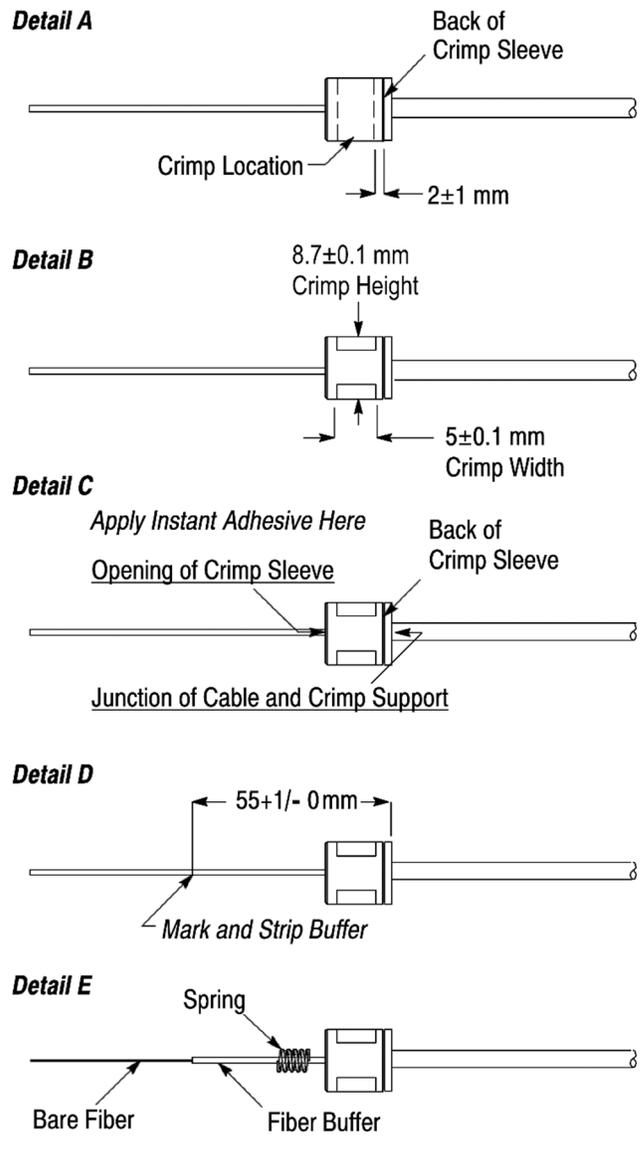

Figure 5
7. Place the crimp sleeve in the 8.6-mm hex nest of the hand tool and crimp the crimp sleeve onto the crimp support. Make sure to position the crimp sleeve in the hex nest so that the crimp will locate from the back of the crimp sleeve to within the dimension shown in Figure 5, Detail A.
8. Using the micrometer or caliper, measure the crimp sleeve across the flats of the hex crimp to make sure that it conforms to the crimp height and crimp width shown in Figure 5, Detail B.
9. At the back of the crimp support, apply the instant adhesive around the circumference of the crimp support at the junction of the cable and the crimp support. Then at the front of the crimp sleeve, apply the adhesive over the opening of the crimp sleeve to encapsulate the strength members. See Figure 5, Detail C. Remove any excess adhesive.
10. Mark the fiber at the dimension shown in Figure 5, Detail D, and using the fiber stripping tool, strip the buffer to the mark, exposing the bare fiber. Using a lint-free tissue or cloth dampened with the isopropyl alcohol or acetone, clean the bare fiber.
11. Slide the spring onto the fiber. See Figure 5, Detail E.